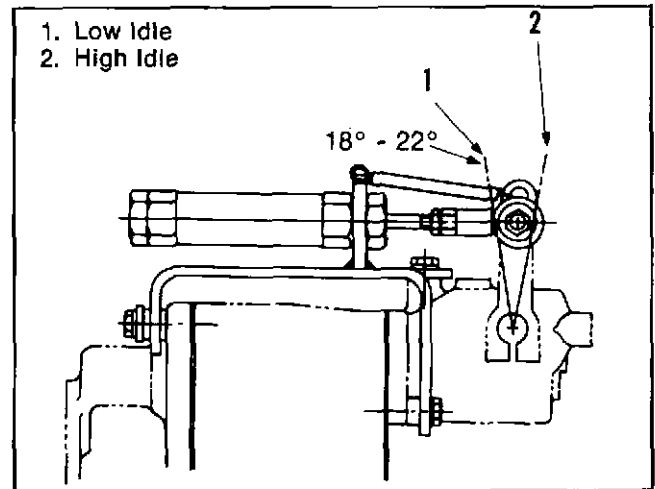

Fig. 10-36, (F5373). Air cylinder kit, Part No. 3017333, on a VS fuel pump.
1. Install the cap nuts and locknuts all the way on the two air cylinders. Install the actuating assembly onto the fuel pump, Fig. 10-36.